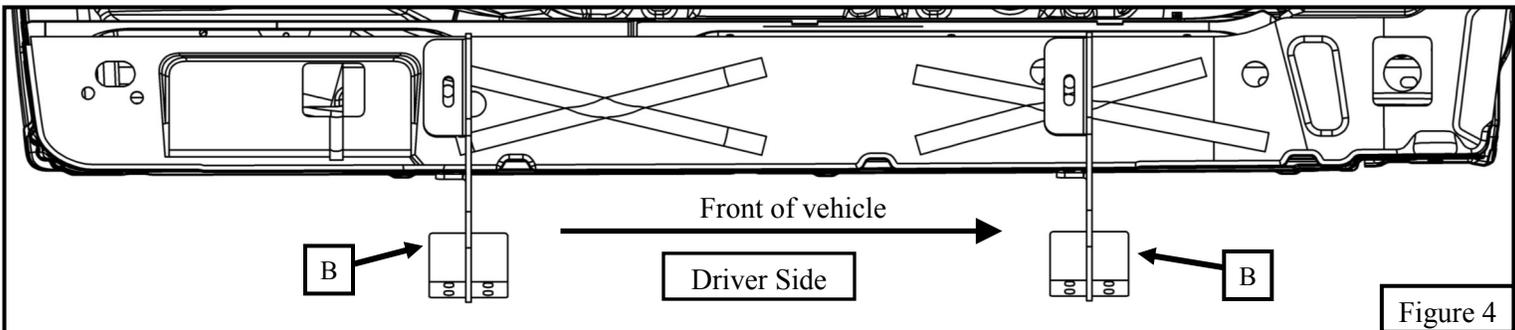
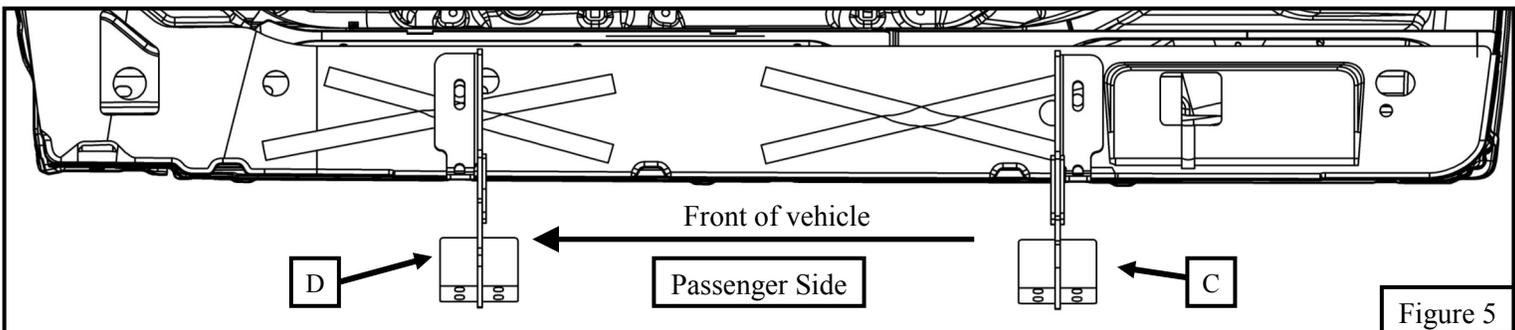

Figure 4
Figure 5
3. Take the mounting brackets and install the bracket and associated hardware loosely to its corresponding positions see **Figures 4, 5, 6, and 7**. Brackets used for passenger side are (1) bracket C (Item 3) and (1) bracket D (Item 4). The driver side will use the remaining (2) bracket B (Item 2). Installation procedure for driver side is the same as the passenger side installation see **Figure 5**. Do not fully tighten hardware at this time. **For 2011-2016 Diesel equipped models:** The D.E.F tank must be removed prior to installing the brackets on the passenger side. For D.E.F tank removal instructions please refer to **page 4**. **Note:** bracket location is critical.